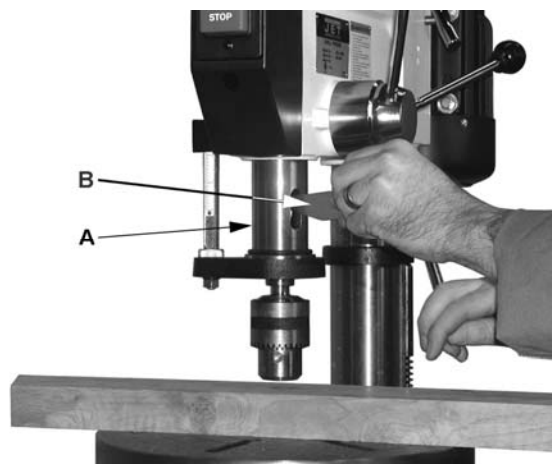

Figure 9
3. Place a piece of scrap wood on the table, and lower quill (A, Fig. 9) using the downfeed handle.
5. Insert the drift key (B, Fig. 9) into the aligned slots and tap lightly. The chuck and arbor assembly should fall from the spindle.